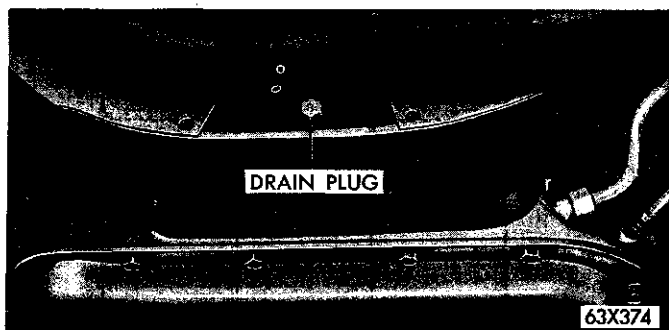

Fig. 10—Converter Drain Plug
(3) Remove the access plate from in front of the converter, remove the drain plug allowing the fluid to drain (Fig. 10). Install and tighten the converter drain plug to 14 inch-pounds torque, and install the access plate.
(4) If necessary, adjust the reverse band. Refer to Paragraph 12.
(5) Install a new oil filter on the bottom on the valve body. Be sure to use a new gasket and tighten the retaining screws to 28 inch-pounds torque.
(6) Clean the oil pan, and reinstall using a new gasket. Tighten the oil pan bolts to 150 inch-pounds torque.
(7) Pour eight quarts of Automatic Transmission Fluid, Type "A" Suffix "A" into the transmission.
(8) Start the engine and allow to idle for at least two minutes. With the parking brake on, depress each push button momentarily, ending with the N (Neutral) button pushed in, or move the selector lever to each position ending in the neutral position.
(9) Add sufficient fluid to bring fluid level to the "ADD ONE PINT" mark. (Approximately 2 quarts.)